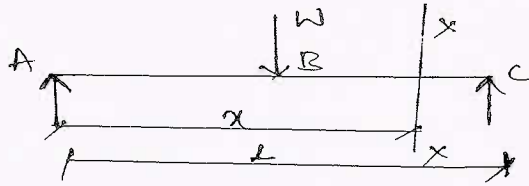

Fig.Q3(c)
- c. Determine slope and deflection for the simply supported beam subjected to point load at mid span shown in Fig.Q3(c).